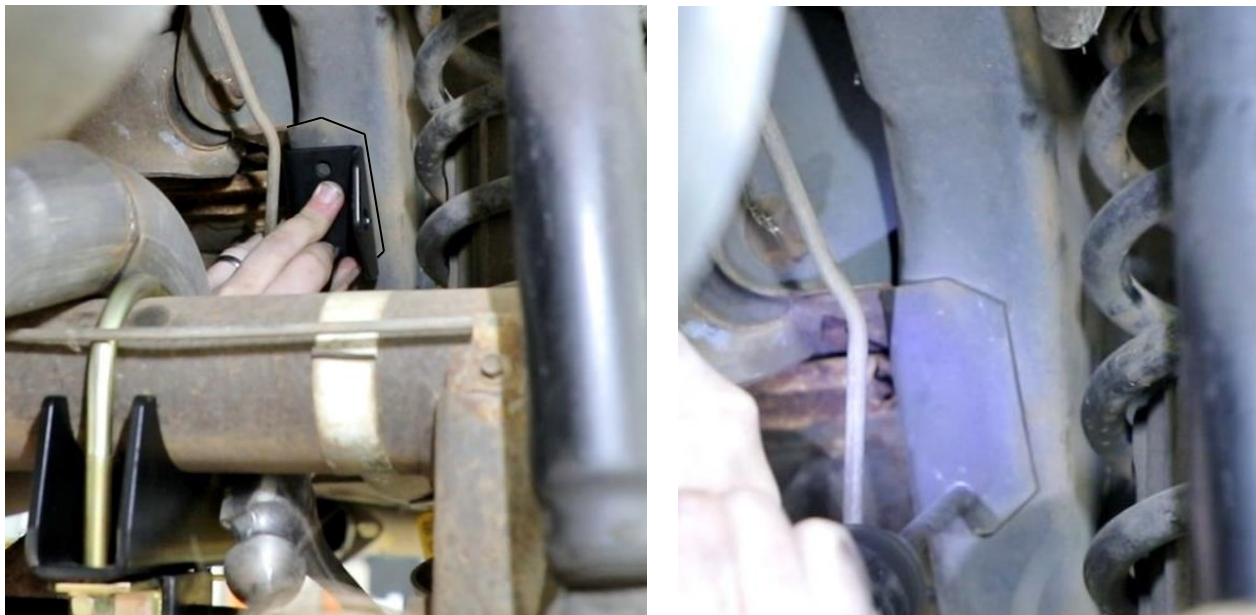

Figure 14 - Drill End Link Bracket Hole
16. Holding the bracket in position, transfer punch the lower hole of the bracket to the bottom side of the frame rail. Remove the bracket and drill out this marked location to a final drill size using a $17/32$ " drill bit (Figure 14). **NOTE:** It is recommended that pilot holes be drilled first before drilling the $17/32$ " holes.